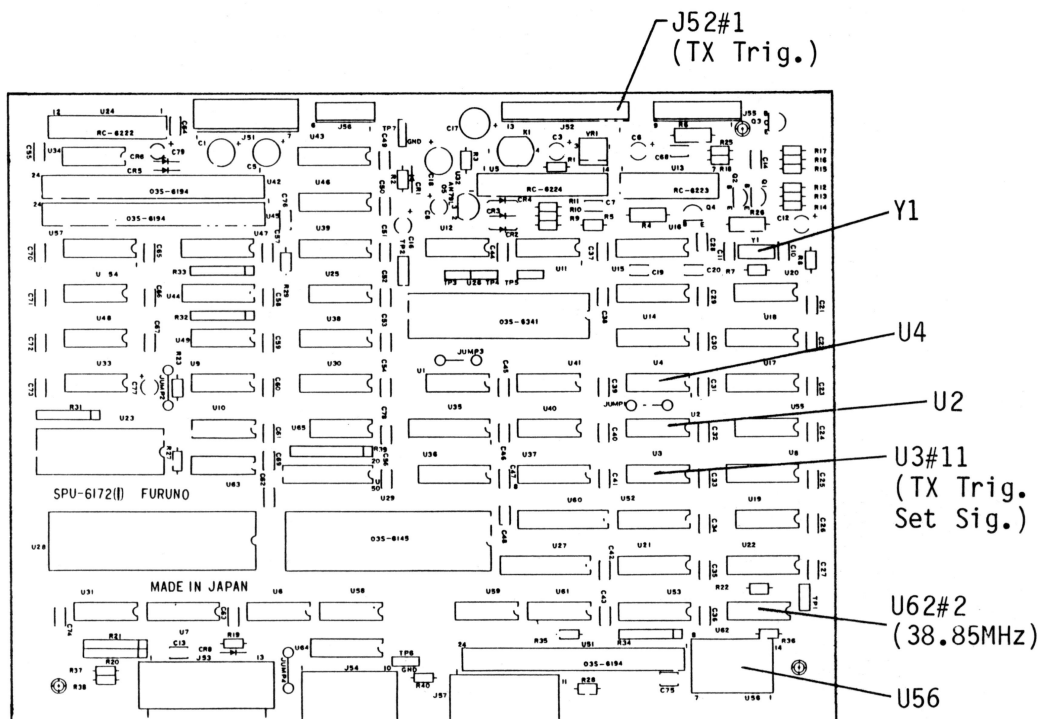

Fig.4-16 PROCESSOR Board (SPU-6171)
- 6) If it is not observed, check the TX trigger set signal from the CPU at pin #11 of U3 on the PROCESSOR board. See Figs. 4-16 and 4-17.
- 7) If the signal is not obtained at pin #11 of U3, the timer IC (U2) on the PROCESSOR board may be faulty. See Fig.4-16. If it is obtained, U56/U62/U4 or Y1 (Crystal: 38.85MHz) on the PROCESSOR board may be faulty. Check the oscillation signal (38.85MHz) at the pin#2 of U62. See Fig.4-16.